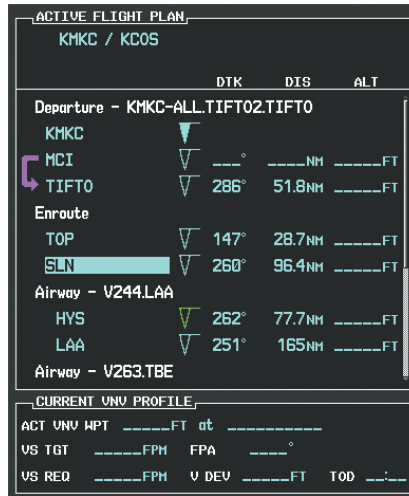

Figure 5-117 TOP Inserted into the Flight Plan
d) Press the **ENT** Key. TOP is inserted into the flight plan as in Figure 5-117.
e) With SLN still highlighted as in Figure 5-117, turn the small **FMS** Knob clockwise. The Waypoint Information Page is displayed and the **LD AIRWY** Softkey is now available.